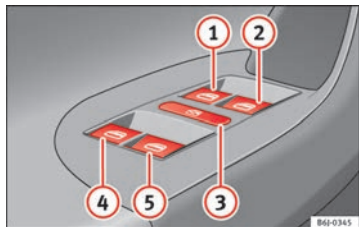

Fig. 56 Detail of the driver door: controls for the front and rear windows (5-door vehicles with front and rear electric windows).
Buttons ⇒ Fig. 56 ①, ②, ④ and ⑤ have two positions for opening windows and two for closing them. This makes it easier to open and close windows to the desired position.